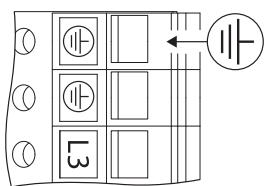

Fig. 27: Additional earthing
• Due to the increased discharge current in motors from 11 kW upwards, it is also necessary to connect heavy-duty earthing in acc. with EN 61800-5-1:2008-04 (see Fig. 27).